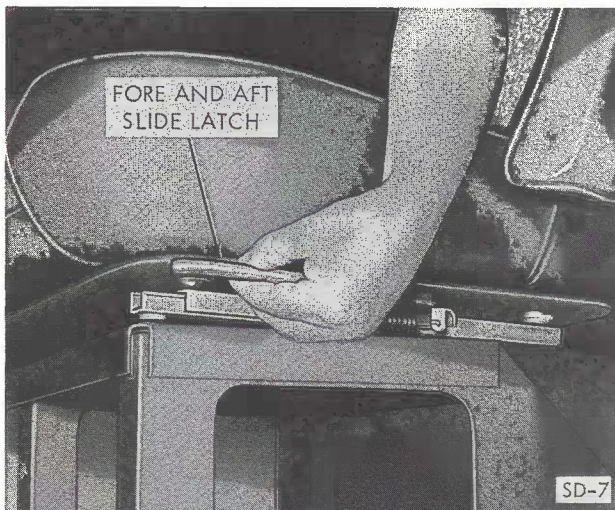

Figure 4-5. Passenger Seat-Adj Lever
b. Passenger Seat (fig. 4-5). The passenger seat on floor plan "A" only adjusts fore and aft (four positions) in same manner as the driver's seat. To move fore and aft slide latch to your left (with left hand) to move seat forward or backward. Release slide latch and seat will click into position. On coaches equipped with a dinette (floor plan "A") the passenger seat arm rests can be folded down if desired. When dinette area (floor plan "A") is used for sleeping, passenger seat must be moved to its full forward position. Passenger seat is equipped with two seat belts and headrests.